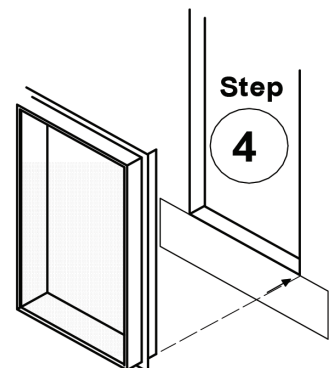

Figure 5 Install window into flashing opening.
Step 4. Install window in prepared rough opening (see Figure 5).